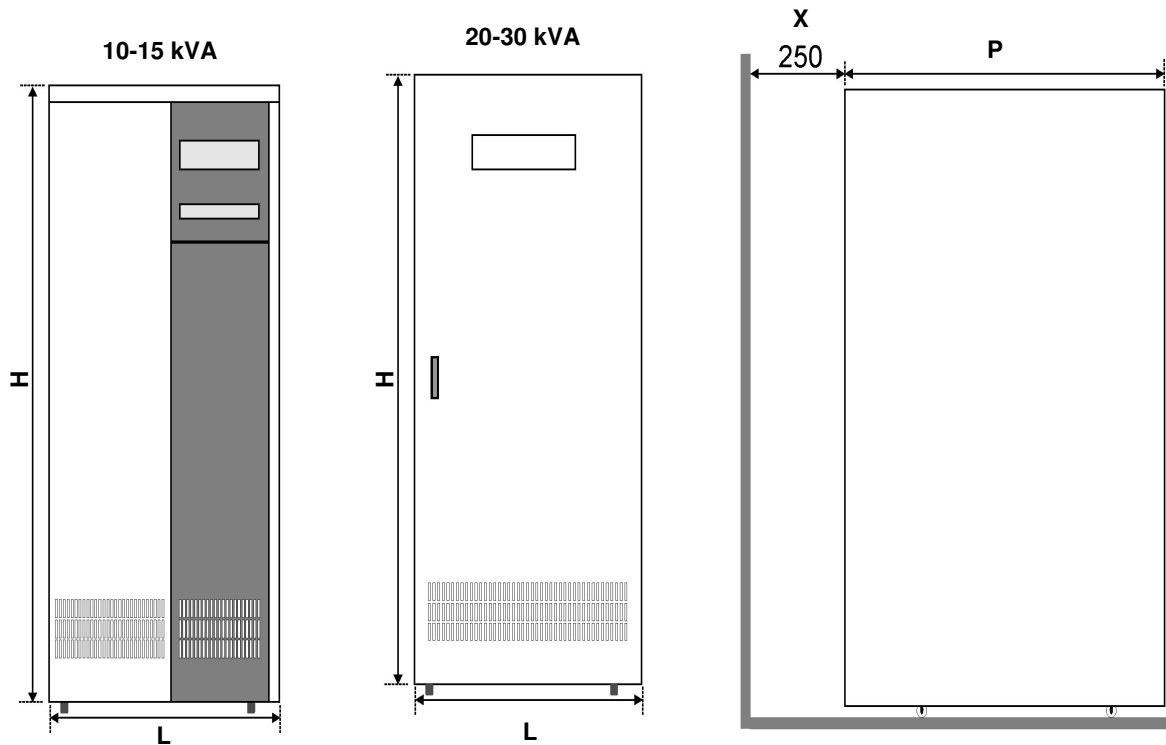

Figure 5-1 Installation Diagram
3. You must therefore allow for a minimum gap of 250 mm behind the unit to allow adequate air flow (See Figure 5.1)